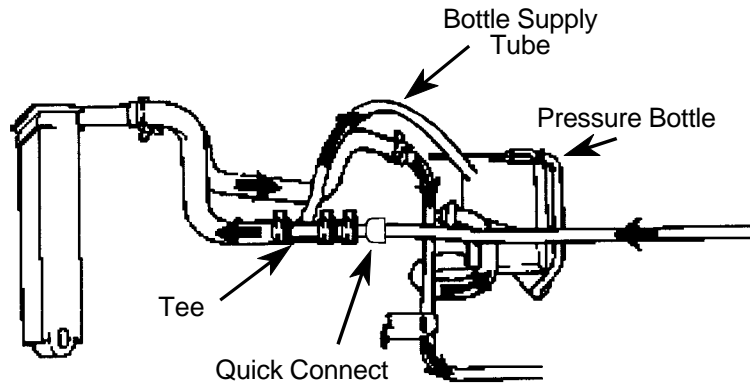

FIGURE 8
13. Install the remaining end of the 3/8 inch hose to the coolant pressure bottle. Use clamp p/n 04592126. The final heater hose configuration is shown in Figure 8.